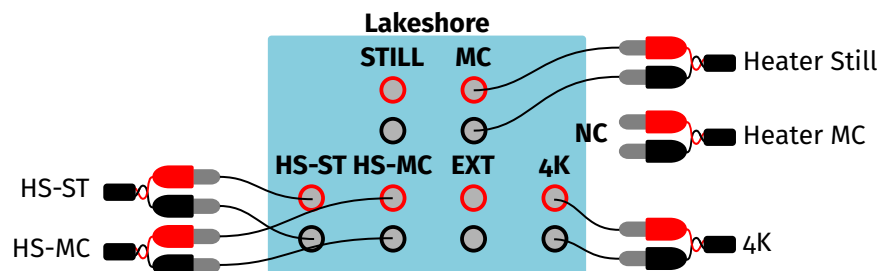

Figure 2: **Heater Patch Panel Wiring.** Note that still and MC are swapped to enable control of the still from the Lakeshore.
- Since we rarely have a want to control **T_{MC}**, we usually use the “sample heater” output of the LakeShore for controlling the still temperature. The correct wiring is thus: **HEATER-STILL** attached to “MC” of the patch panel and **HEATER-MC** not attached. Shown in figure 2.
When you are sure the devices are fine, leave the patch panel in the configuration as shown in figure 2.